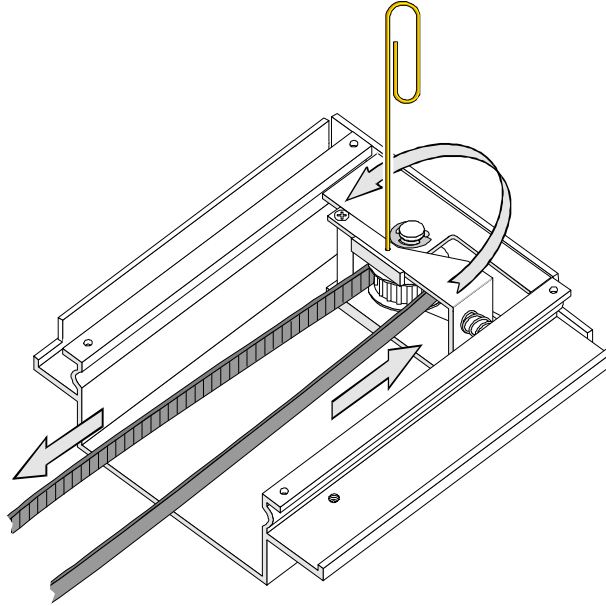

Figure 2-6 Threading the Belt Through the Base Section
2. Referring to Figure 2-6, locate the tensioner ramp in the base section. Compress the spring until the hole in the tensioner ramp is aligned with a hole in the base section. Insert an 0.050" Allen wrench or a paper clip through the holes. This sets the idler pulley for zero belt tension.
7. Referring to Figure 2-6, thread the belt from the motor drive counter-clockwise around the idler pulley and back to the right end.
5. Referring to Figure 2-6, locate the tensioner ramp in the base section. Compress the spring until the hole in the tensioner ramp is aligned with a hole in the base section. Insert an 0.050” Allen wrench or a paper clip through the holes. This sets the idler pulley for zero belt tension.